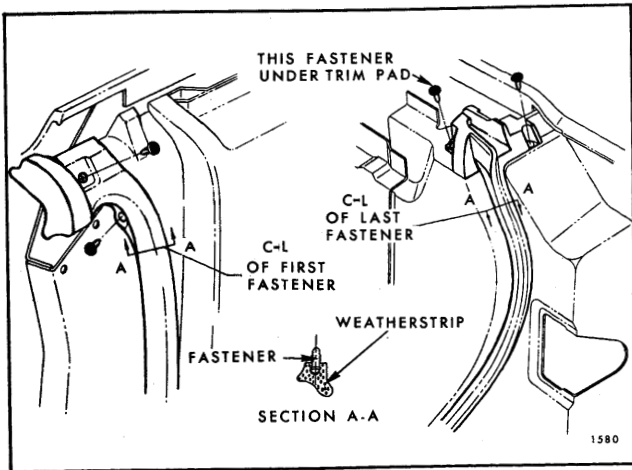

Fig. 7-23—Door Weatherstrip - "B-C 39" Rear Door Shown - "E" Front Door Similar
1. On all hardtop and convertible styles, remove exposed plastic fasteners at beltline. On all "E" Styles and "B-C 39" and "C-69" Style rear doors, remove door trim assembly to gain access to fastener under trim pad (Fig. 7-23).